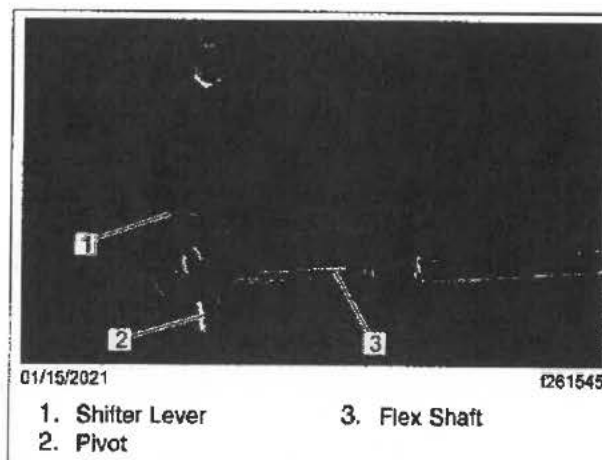

**Fig. 1, Shifter Lever and Pivot Disconnected**
6. Remove the cotter pin, and disconnect the shaft pivot from the shifter lever. Rotate the shaft pivot 90 degrees, so that the pivot axis is vertical and the pivot pin does not accidentally engage to the transmission lever. See Fig. 1.